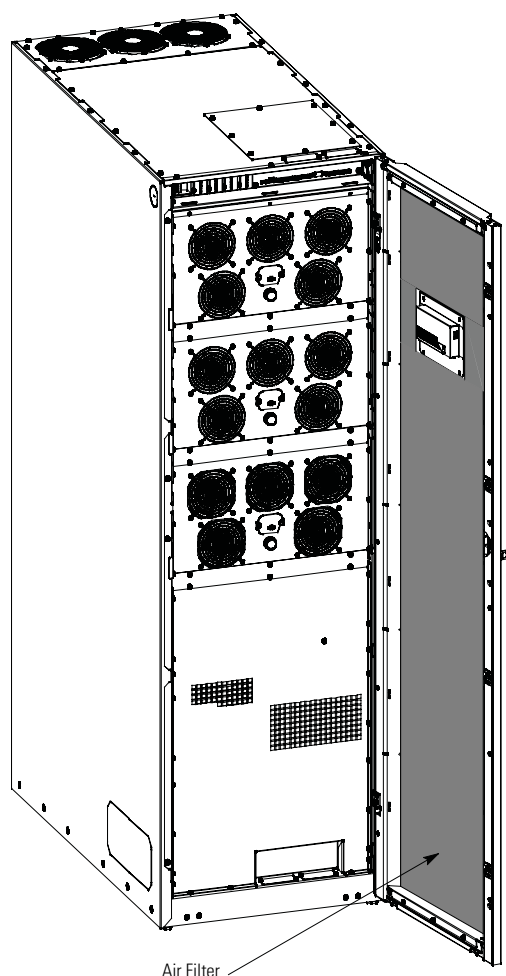

Figure 8-1. Air Filter Location
2. Check the UPS air filter (located behind the front door) and wash or replace as necessary. See Figure 8-1 for filter location. Contact an Eaton service representative for replacement filters.